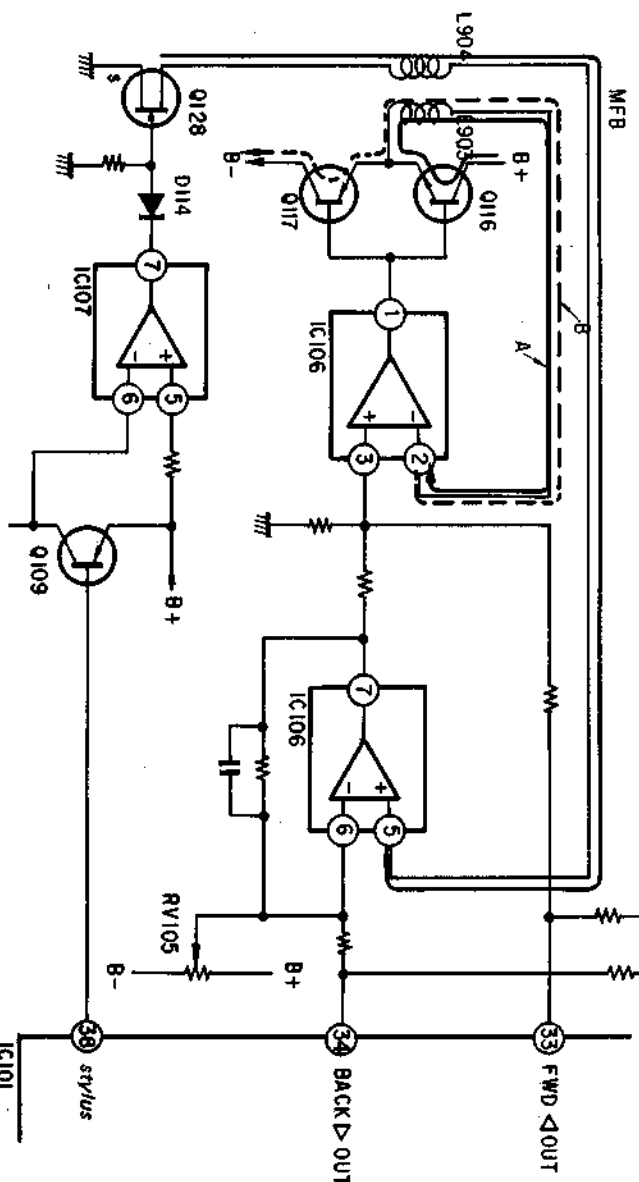

Fig. 2
2. Circuit for Tonearm's Horizontal Movement (See Fig. 2):